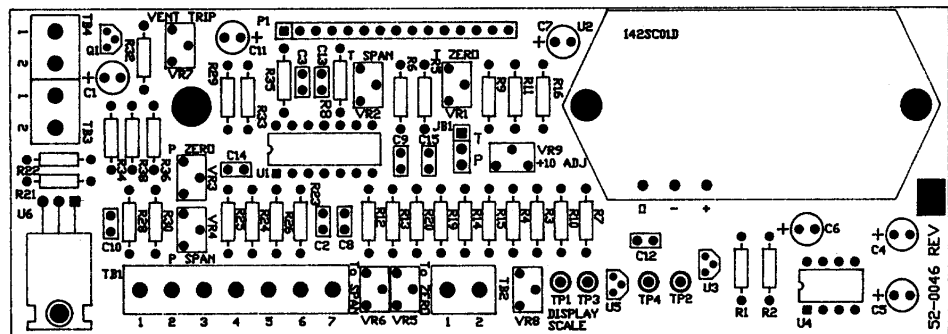

Figure 4-4. Cal-Bench Temperature/Pressure Board
2. Swing back the Cal-Bench™ front panel to expose the temperature/pressure board. Locate the pressure transducer on the board. (See Figure 4-4.)